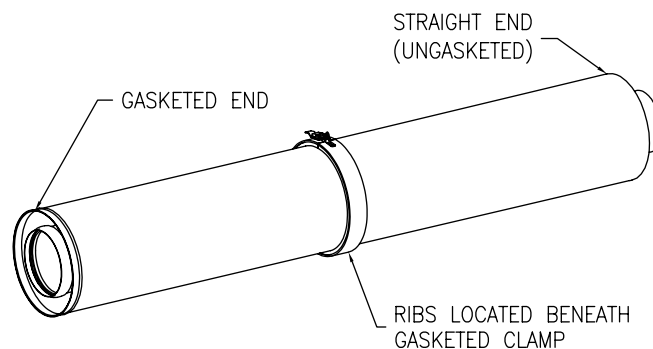

Figure 10
- (b) Connect the outside pipes together using the gasketed clamps provided. The outside vent pipes have ribs located on the female end. When connecting the vent piping, the gasketed clamps must cover the ribs and joints of the connecting vent tubes (See Figure 10). Support each pipe section with hangers attached to supporting joists in the wall or ceiling.